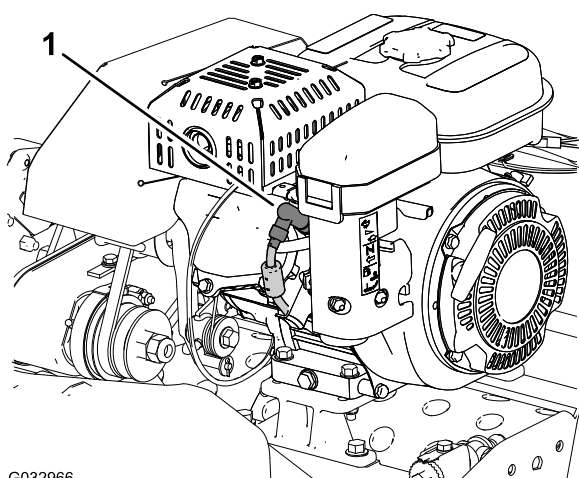

Figure 1
4. Remove the spark-plug wire from the terminal of the spark plug (Figure 1).